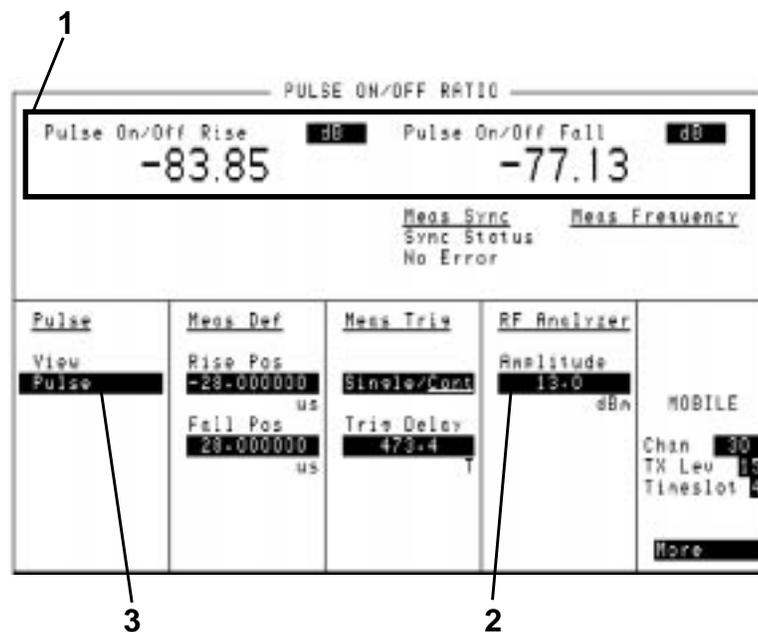

Figure 2-9
- The main measurements, Pulse On/Off Rise and Pulse On/Off Fall are displayed at the top of the screen (1), see Figure 2-9 on page 2-18
- The sensitivity of the Agilent 8922M/S receiver can be varied (2) allowing you to verify whether the signal still falls within the boundaries of the GSM power mask.